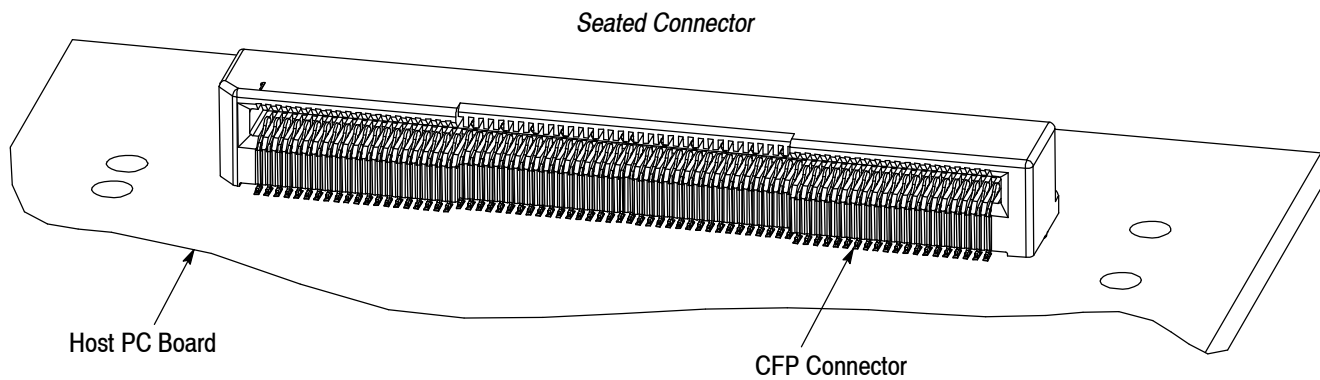

Figure 2
1. Install the connector assembly onto the host pc board according to Application Specification 114-13263. Refer to Figure 2. Solder the
1. Install the connector assembly onto the host pc board according to Application Specification 114-13263. Refer to Figure 2. Solder the connector to the pc board before seating the connector cover.